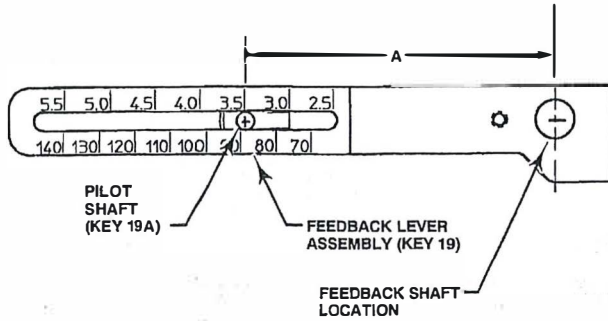

Figure 20. Pilot Shaft Setting
1. Pilot shaft setting is the A dimension in figure 20.
17. Install the cover (key 19T) on the feedback lever assembly (key 19) with cover screw (key 19U).
18. Install the positioner cover (key 21) and secure with the machine screws (key 24). Make sure the Fisher logo reads correctly and the vent is pointing downward.